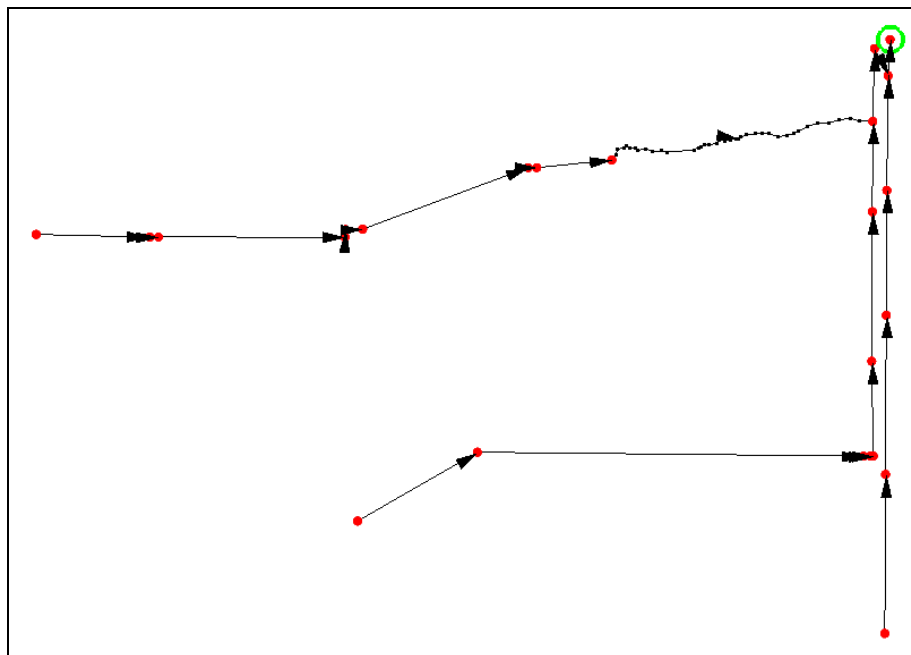

Figure 3 Flow directions toward outfall (circled)
5. Using the **Select Feature Point/Node**  tool, right-click on the outfall node (circled in Figure 3) and select **Reorder Streams**.
This changes all of the pipe flow directions so they flow toward the outfall (circled in Figure 3).